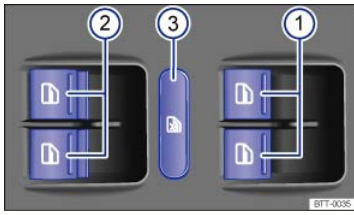

Fig. 32 In the driver door: Switches for front and rear power windows.
Key to ⇒ Fig. 32 :
The safety switch ⇒ Fig. 32③ deactivates the power windows in the rear doors. The yellow indicator light in the switch lights up.